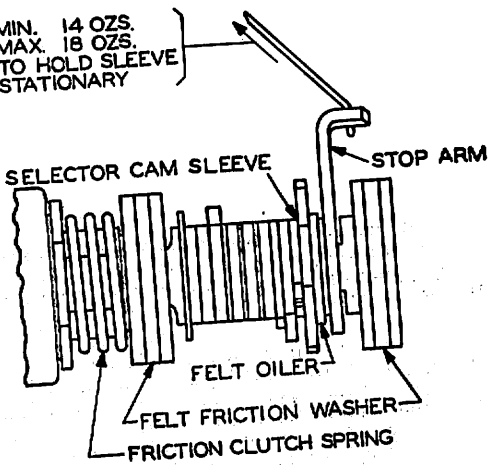

Fig. 1
3.01 **Selector-Clutch Torque:** After clutch has been freshly lubricated and motor has been run for at least 10 minutes a pull of Min. 14 ozs., Max. 18 ozs. applied tangentially to the selector stop-arm, when the motor is running, shall hold the selector cam-sleeve from rotating when the selector stop-arm is held just clear of its stop. **Fig. 1**